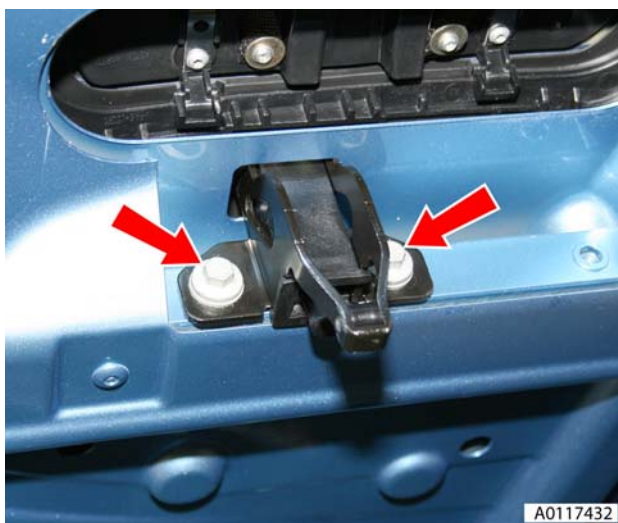

Figure 9
13. Remove 2 bolts (both sides) securing tonneau strikers and remove (see Figure 9).